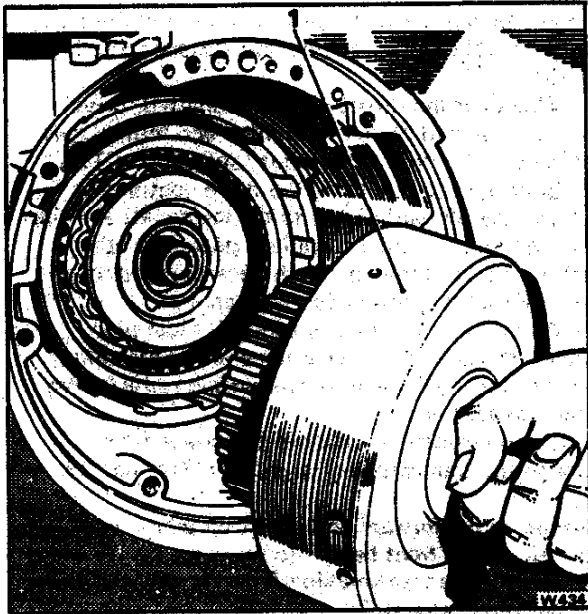

Fig. T94 Removing the forward clutch assembly
3. Withdraw the turbine shaft and the forward clutch from the transmission (see Fig. T94).